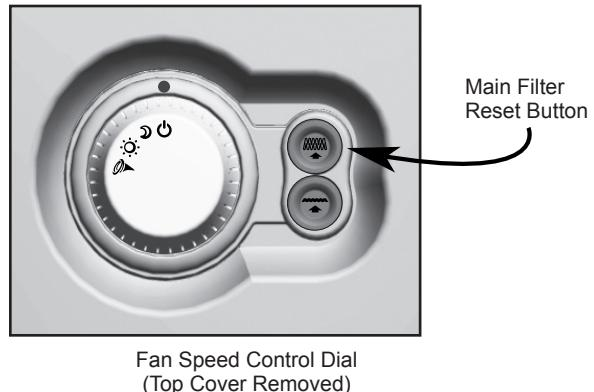

Fig. 9 - Resetting the Main Filter Life Counter
- Reset the Main Filter Life Counter by pressing the Main Filter Reset Button. See Figure 9.